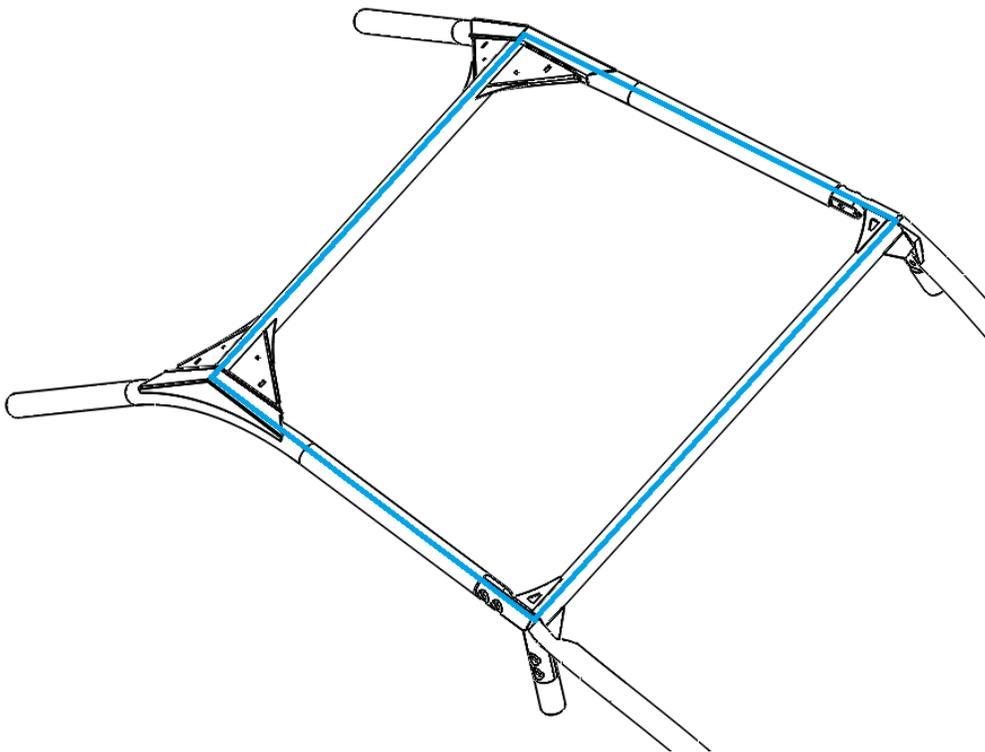

Figure 5: Areas to apply foam tape.
2. Clean the surface of the cage to remove dirt and residue before installing the foam cab-sealing tape. Use a mild detergent or paint safe solvent and allow to dry completely. Place the supplied foam tape across the surfaces highlighted in Figure 5 below.